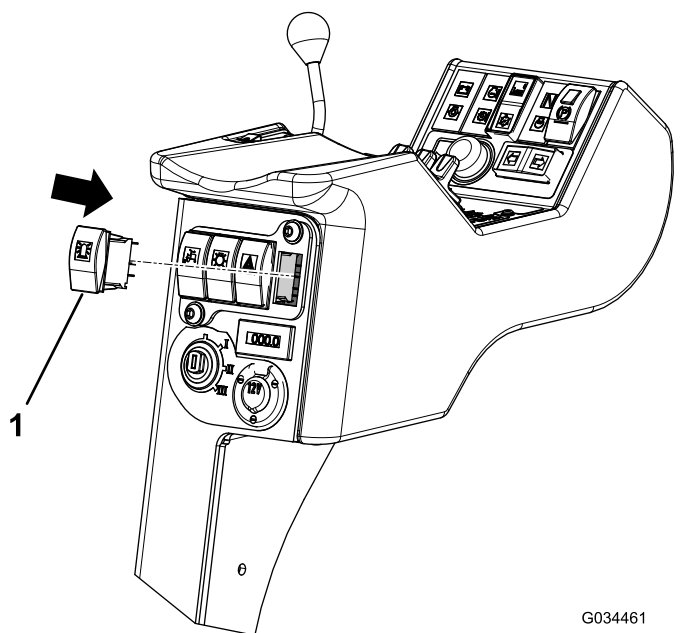

Figure 15
3. Press the switch into the cutout until it clicks into place (Figure 15).